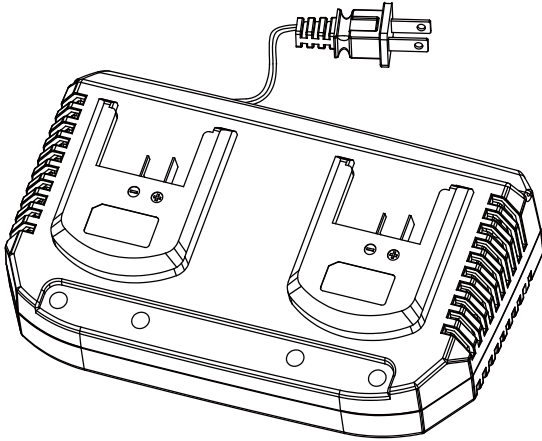

Fig. 7
2. Check that the voltage of the electrical outlet is the same as that marked on the rating plate of the battery charger. Then, insert the charger's plug into the wall outlet. When you plug in the charger, the green light at the right side will illuminate and remain green. (Fig. 7)